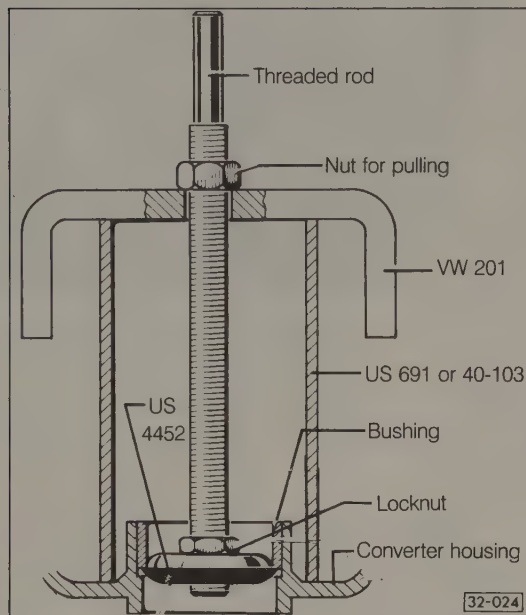
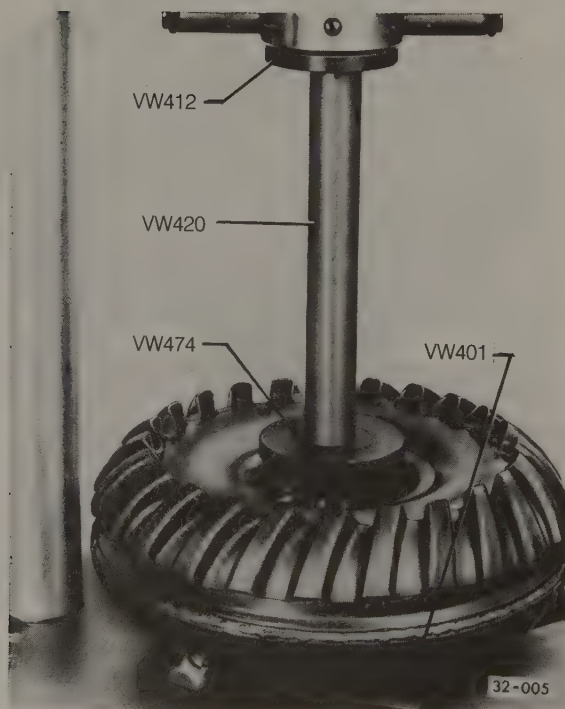

Fig. 5-9. Torque converter bushing being removed. Numbers shown identify Volkswagen special tools.
Fig. 5-10. Torque converter bushing being installed. Numbers shown identify Volkswagen special tools used with hydraulic press.
- To replace the bushing, remove it using the Volkswagen special tools shown in Fig. 5-9. Press in the new bushing as shown in Fig. 5-10.